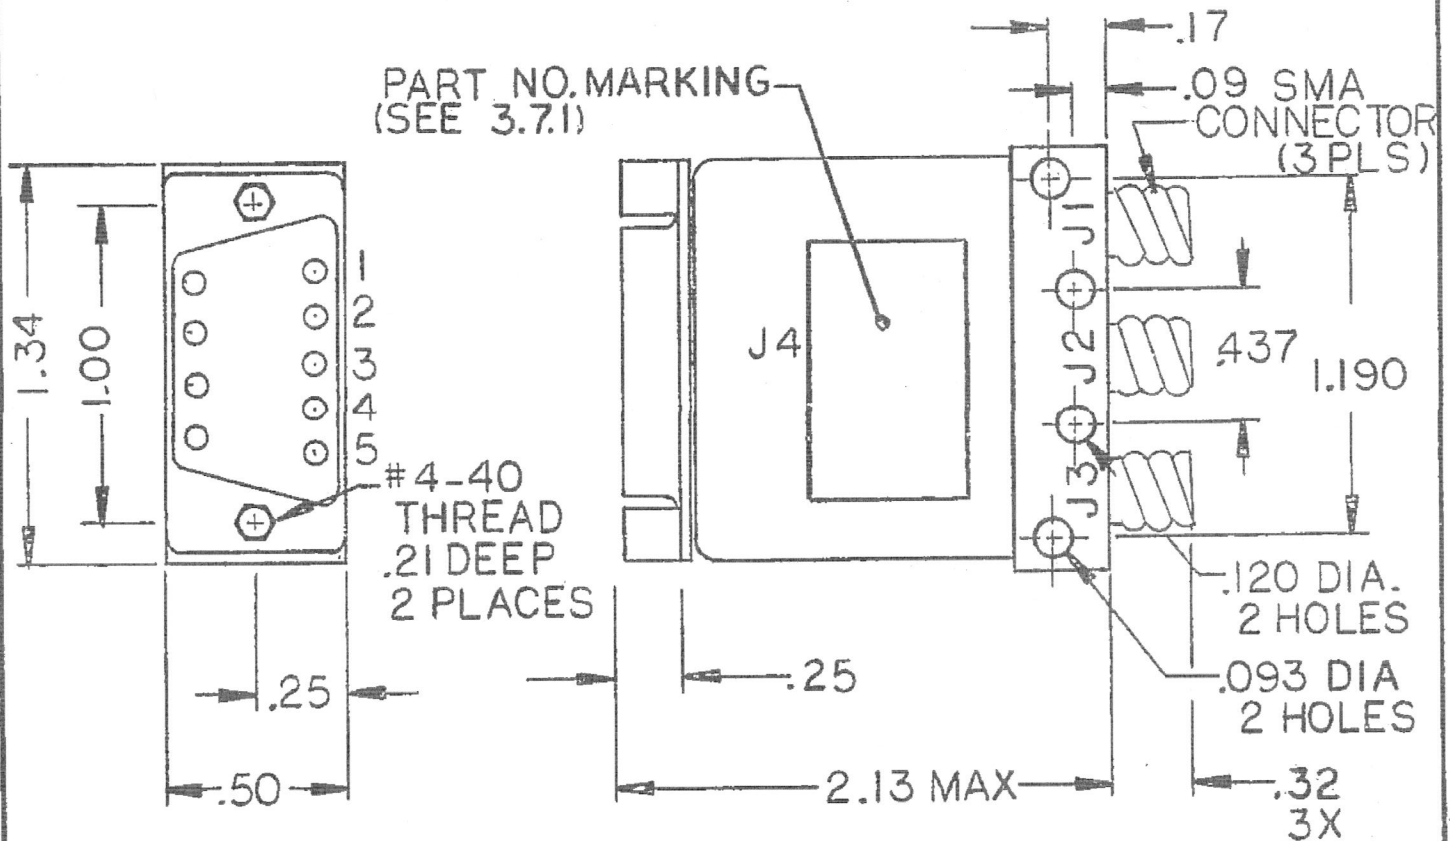

FIGURE 1-OUTLINE DRAWING
- 3.3.4 Configuration. The part shall meet the dimensional requirements as illustrated in figure 1 of this drawing.